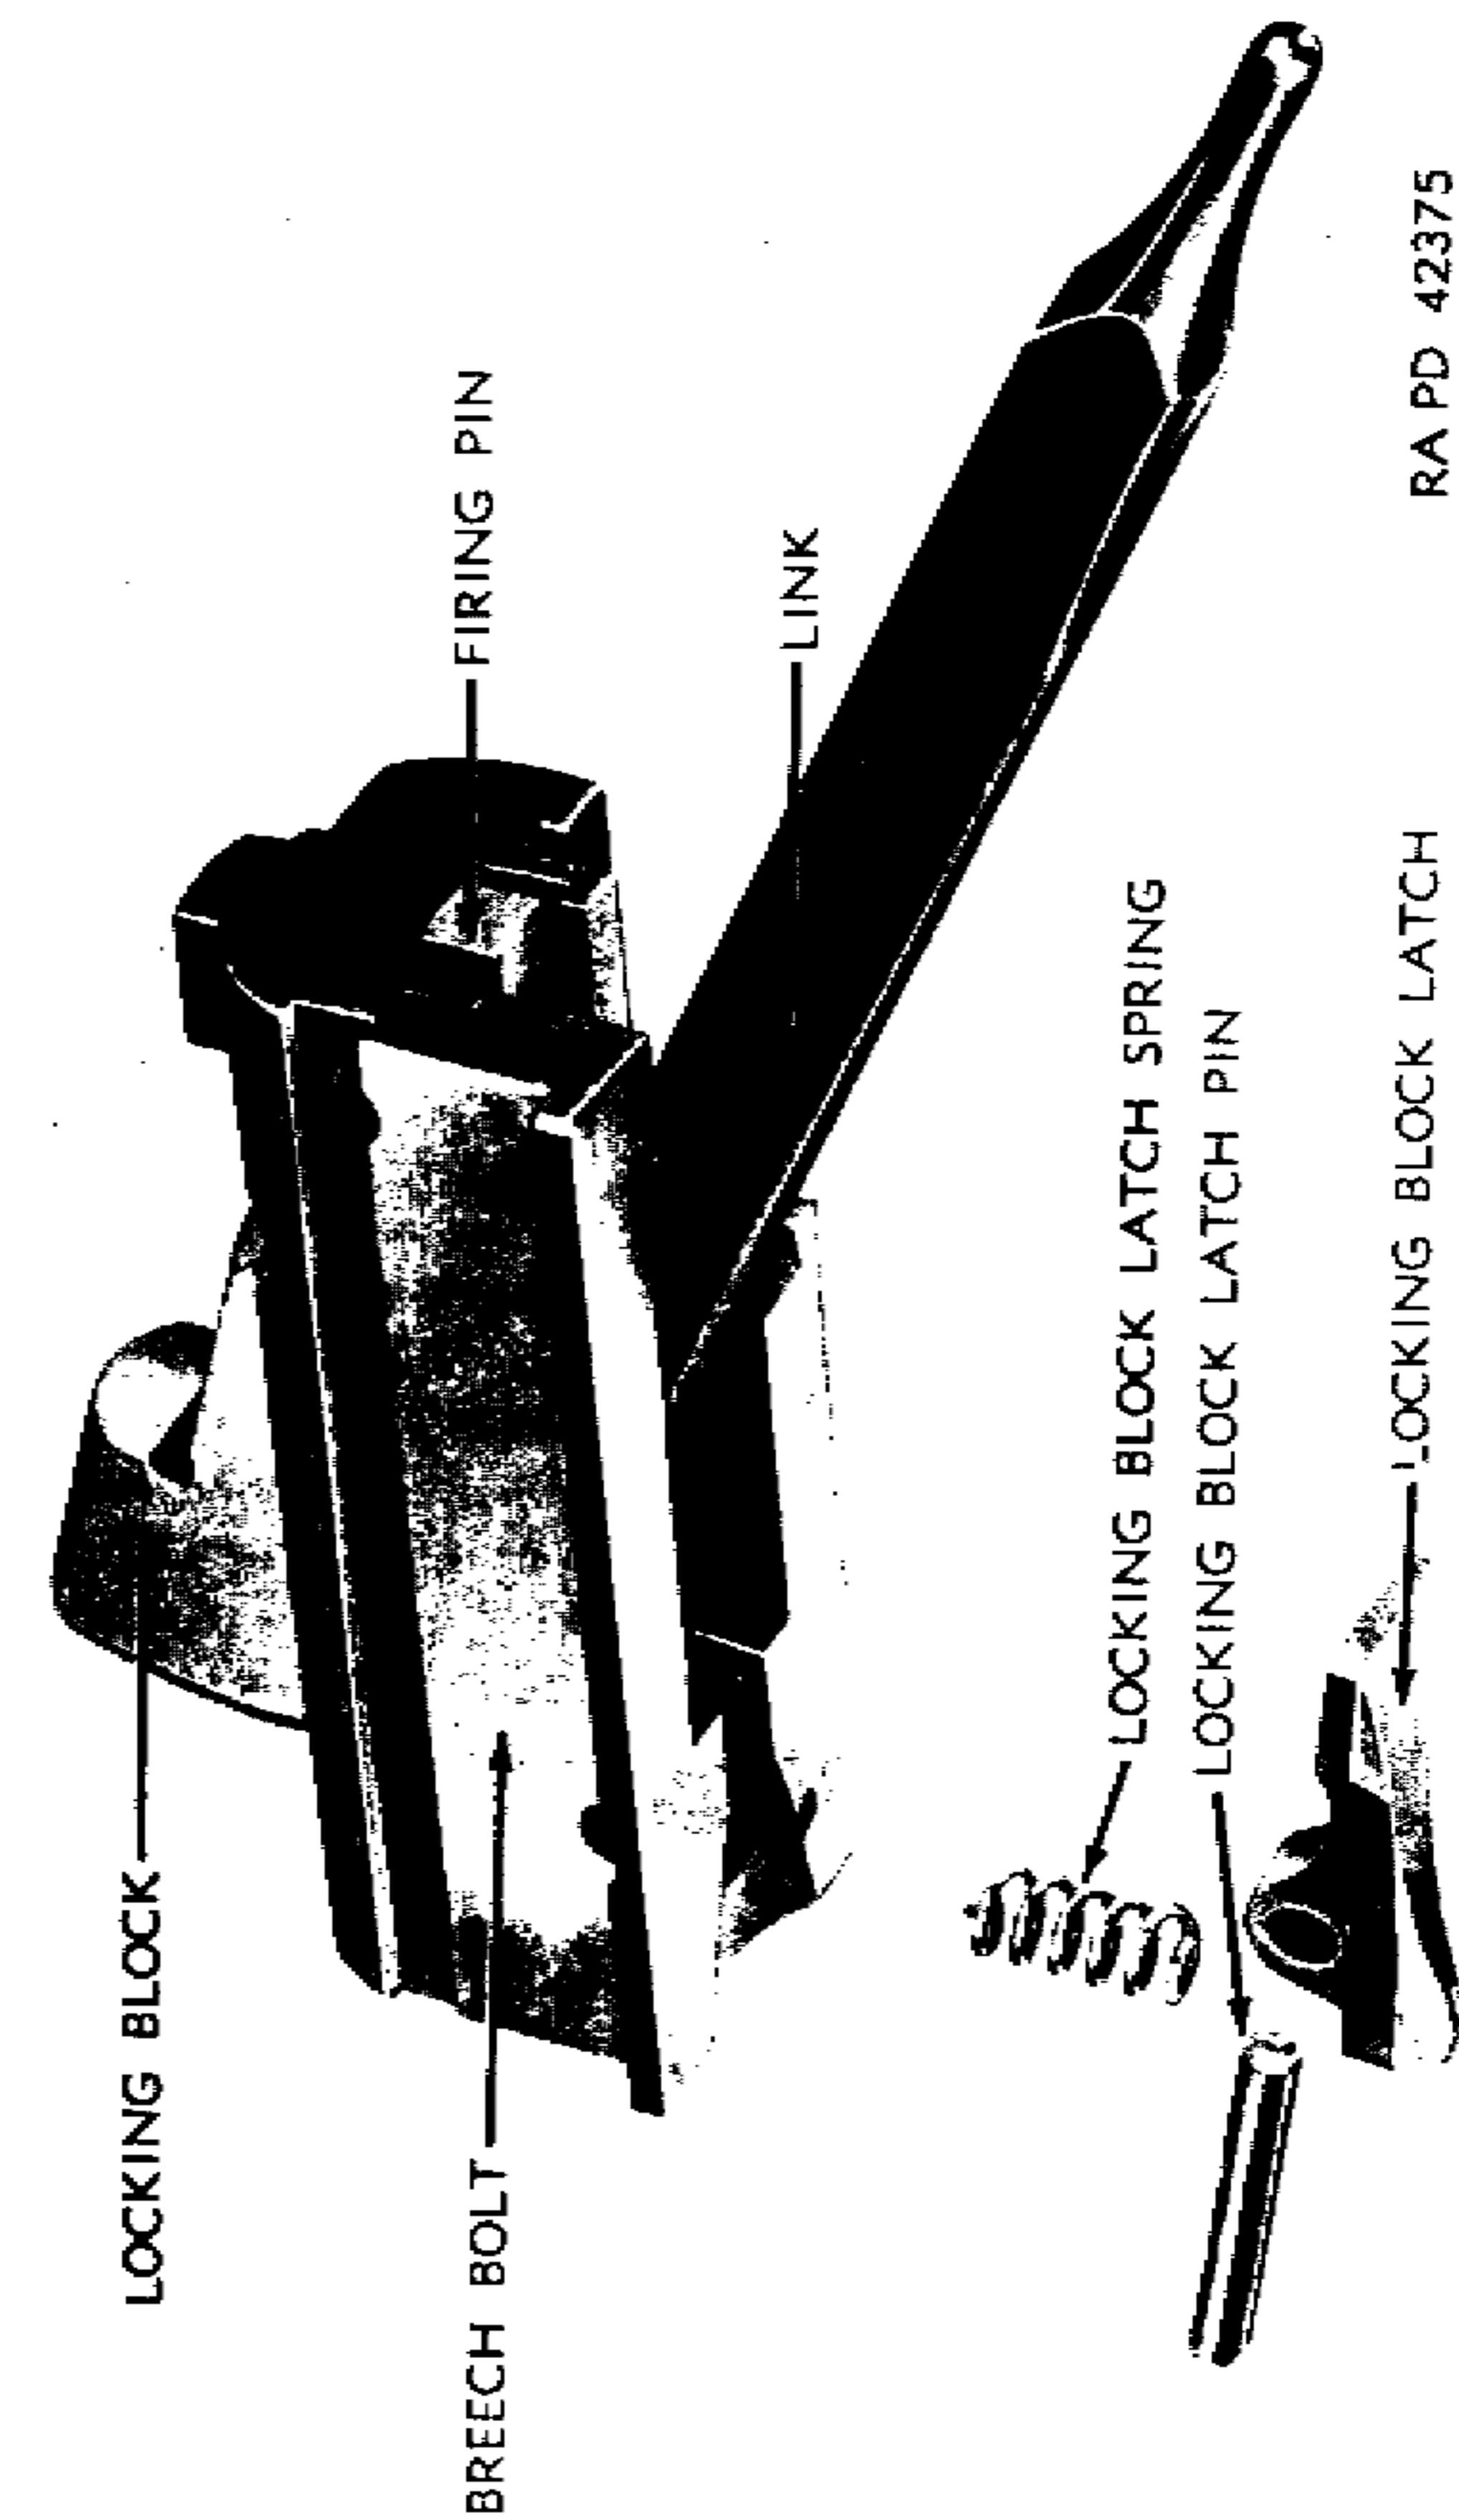

Figure 116—Breech Bolt Group—Rear, Bottom and Left Side View—Locking Block Latch Disassembled—Savage Shotgun M720
(9) The breech bolt (fig. 116) functions in guideways in the inner walls of the receiver and houses the firing pin which operates longitudinally through the length of the bolt and the locking block, and is cammed back into the bolt by the locking block as the block rotates downward. The extractor, positioned in the forward right face of the bolt, is of the claw type, and spring actuated. The locking block functions radially in guideways in the breech bolt and is positioned by the firing pin which passes through it and the breech bolt. To the lower rear end of the locking block, the link is pivoted by which the block is rotated upward to lock the breech bolt and barrel together when in the forward position. The firing pin is positioned by the firing pin stop pin passing laterally through the bolt and a groove in the firing pin. In the under side of the breech bolt, the locking block latch is pivoted and actuated by a coil spring, positioned between the latch and the bolt. The latch blocks the lower end of the locking block from forward (radial) movement until levered up by the link as the rear end of the link rises at the end of the forward movement. The operating slide, by which the breech bolt is manually retracted to load and cock the gun, is positioned in a groove in the right side of the bolt and reciprocates with it when the gun functions. The slide also functions with the link and carrier dog to unlock the breech bolt and barrel.